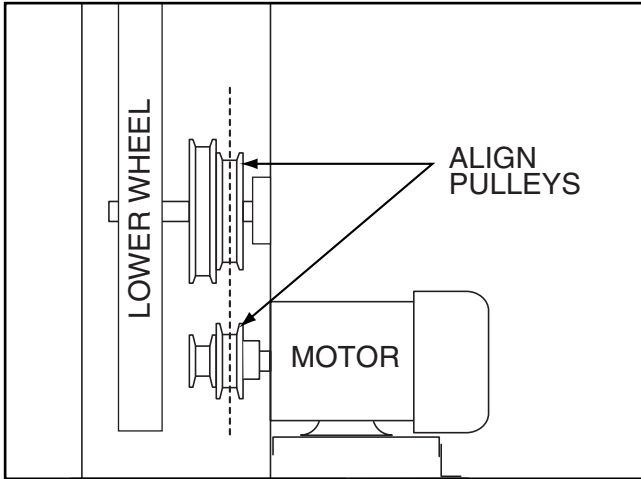

Figure 24. Wheel to pulley alignment.
- Check for proper pulley alignment by placing a straightedge on the outside edge of the upper pulley so that it overlaps the motor pulley. If the straightedge does not touch both pulleys evenly, the pulleys are not aligned. Loosen one or both of the pulley setscrews on their shafts and slide the pulleys toward alignment. Remember to retighten the setscrews when finished. **See Figure 24.**